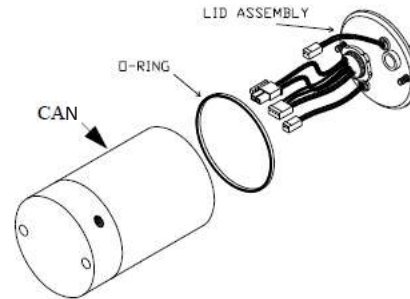
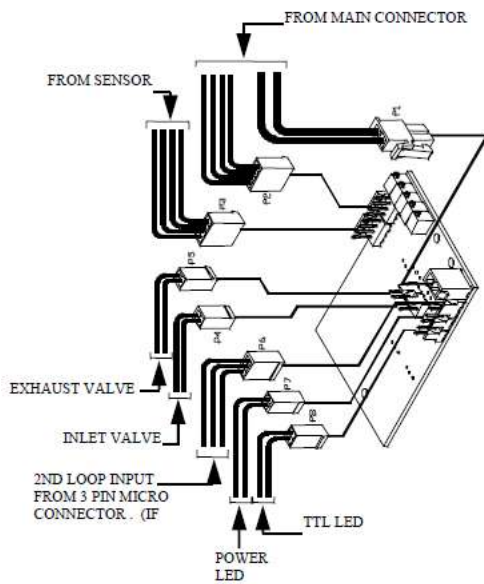

Figure 9
Figure 8
- B. **Figure 8:** Unplug main connector wires and LED wires from the board.
- C. **Figure 9:** Remove lid, lid o’ring and can assembly from manifold .
- D. **Figure 8:** Unplug valve and sensor wires from board.
- Plug valve, sensor wires into board. Figure 8
- Obtain an assembled lid and plug the main connector and LED wires to the board. Figure 8
- Place lid o'ring on inner edge of can. Figure 9. If not already done, plug the main connector wires and LED wires into the board, refer to Figure 8